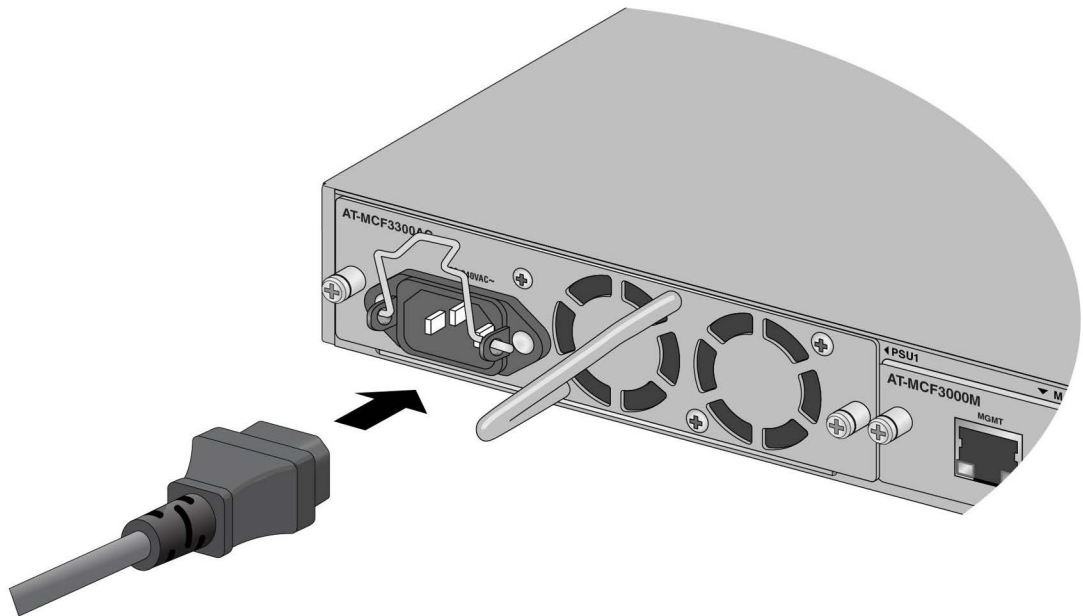

Figure 56. Connecting the AC Power Cord
2. Plug the power cord into the AC power connector on the power module. Refer to Figure 56.